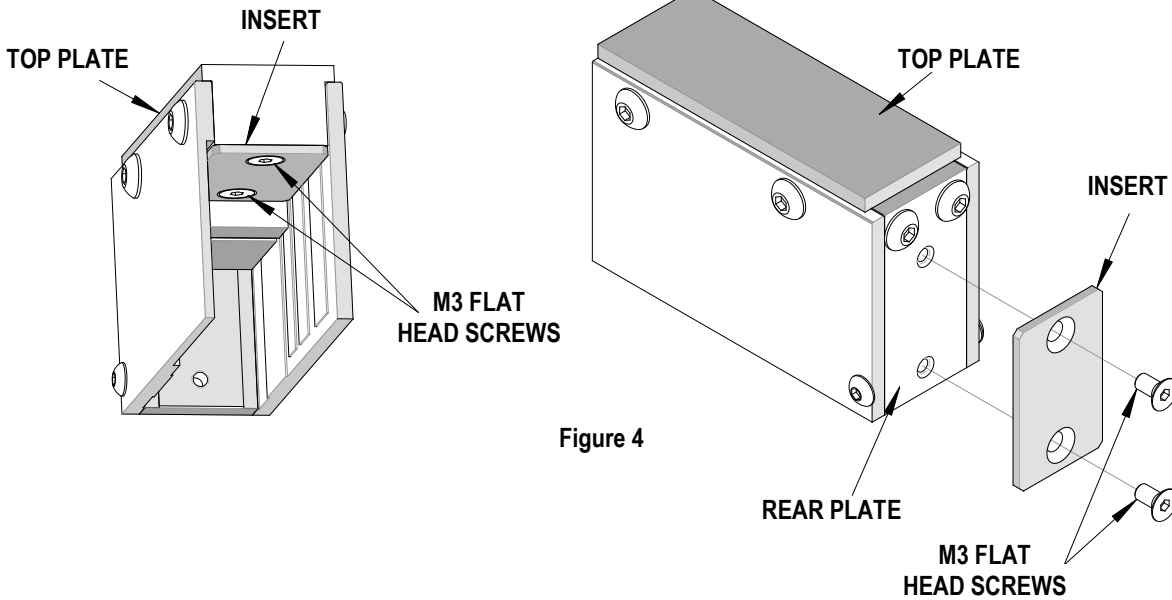

Figure 4
3. The insert can be stored on the rear plate of the tool. Use the 2 M3 flat head screws to hold the insert to the rear plate. See Figure 4.